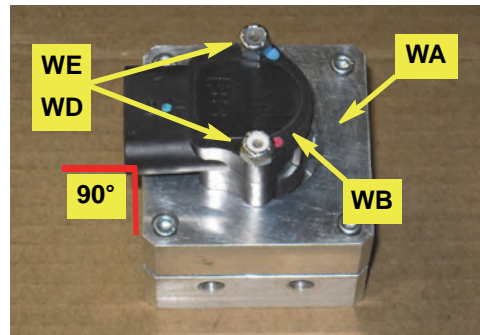

Figure 1a: Prepared WAS housing/connector
- a. Locate the lower two holes (of the four matching holes) in the engine casting on the left side of the tractor forward of the fuel tank. Remove the hole plugs (if fitted - Figure 1a and left inset).
Using hardware **EJ**, mount steering controller bracket **EI** at the location identified (Figure 1a, right inset - note, prototype bracket shown).
Figure 1a with insets: Steering controller mounting location and (right inset) bracket installed (prototype bracket shown)
- a. Using the provided hardware **WE** (nuts) and **WD** (bolts - not visible), attach the WAS wire connector **WB** to the WAS housing **WA**. Install the bolts up through the bottom of the housing. The WAS wire connector **WB** can be mounted 90° to any of the WAS housing **WA** sides (Figure 1a).